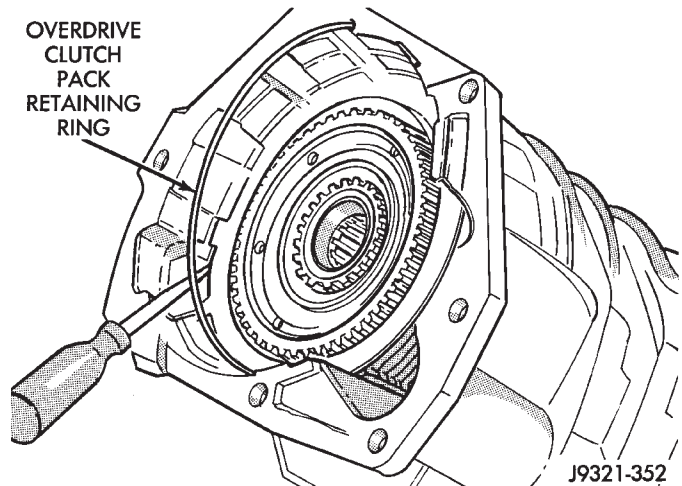

Fig. 187 Removing Overdrive Clutch Pack Retaining Ring
(1) Remove overdrive clutch pack wire retaining ring (Fig. 187).